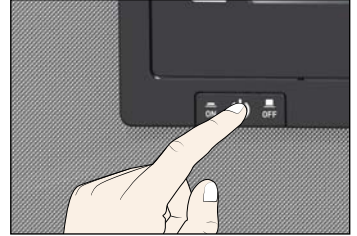

Fig. 15 Switching on the appliance.
2. Switch on the appliance by pressing the main switch on the front of the appliance (Fig. 15).